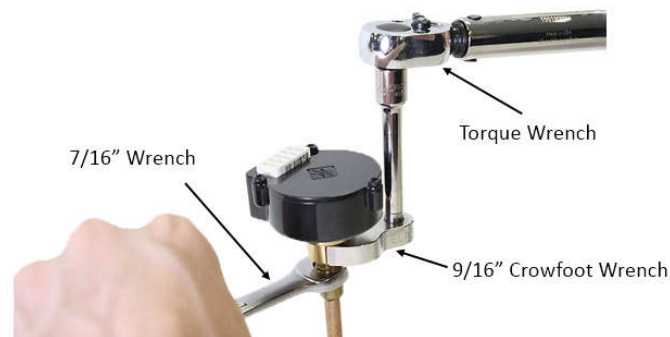

Figure 2-2 DPTS Installation with Torque Wrench (70 in-lb)
3. Mount the DPTS onto the SAE male flare fitting. First, turn the DPTS clockwise by hand until some resistance is observed. Then, use a torque wrench to tighten the DPTS to **70 in-lb** as shown in **Figure 2-2**.